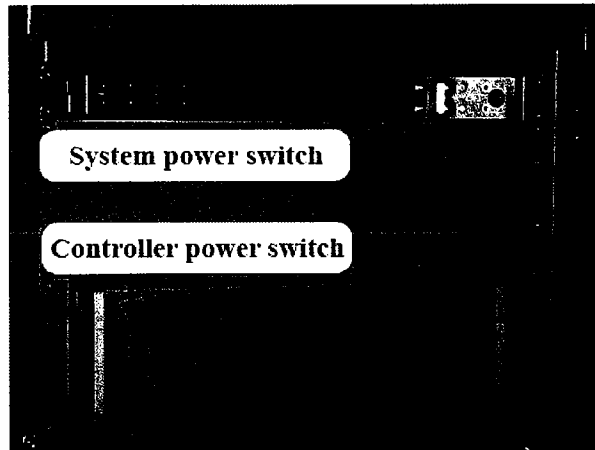

Figure 23 - MarMosaic power switches
Controller Power Switch indicated in Figure 23 should be switched to "off" position, if not already.
System Power Switch indicated in Figure 23 should be in "on" position (green light is lit), if not already. This is the component normally labeled "Marway Power Systems."
Switch the System Power Switch on inside the MarMosaic cabinet, as shown above in Figure 23. This is the component normally labeled “Marway Power Systems.”
Next, switch on the MarMosaic Controller Power Switch, also shown in Figure 23.
2. Power off the Controller Power Switch (not the System Power Switch) as shown in Figure 23 (MarMosaic 300 and 325 users, power off both Controller Power Switches in either order).